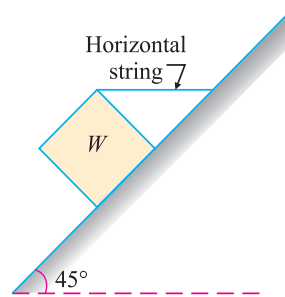

Fig. 8.26.
3. A rectangular prism ( $W$ ) weighing 150 N, is lying on an inclined plane whose inclination with the horizontal is shown in Fig. 8.26.